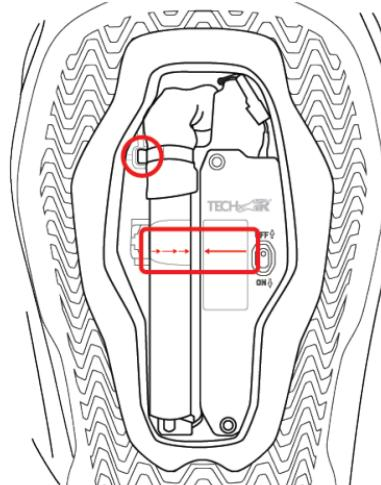

Figure 11: Gas Inflator (1) Installation
Next, proceed to reinsert the Gas Inflator (1) back into the Gas Inflator Housing (4) by pushing it into position as shown in Figure 11. Please check to make sure that the metal clasp at the top of the Gas Inflator (1) is positioned to the left inside the housing. It is important that you align the lines on both the Gas Inflator (1) label and the Airbag Control Unit (ACU) Cover label, as illustrated in Figure 11 below.